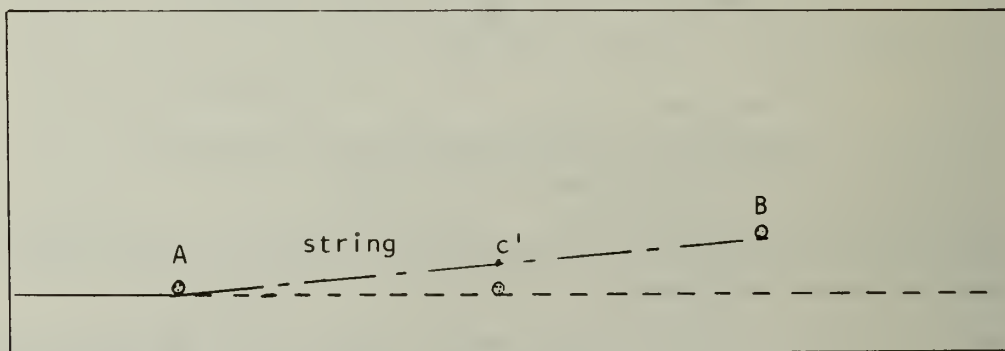

Figure 22. Rounding a Shallow One Post Curve
1. For change of direction less than 20 degrees (Fig. 22).